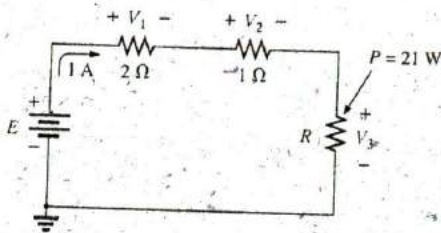

FIG. 5.98
14. Find the unknown quantities for the circuit of Fig. 5.98 using the information provided.